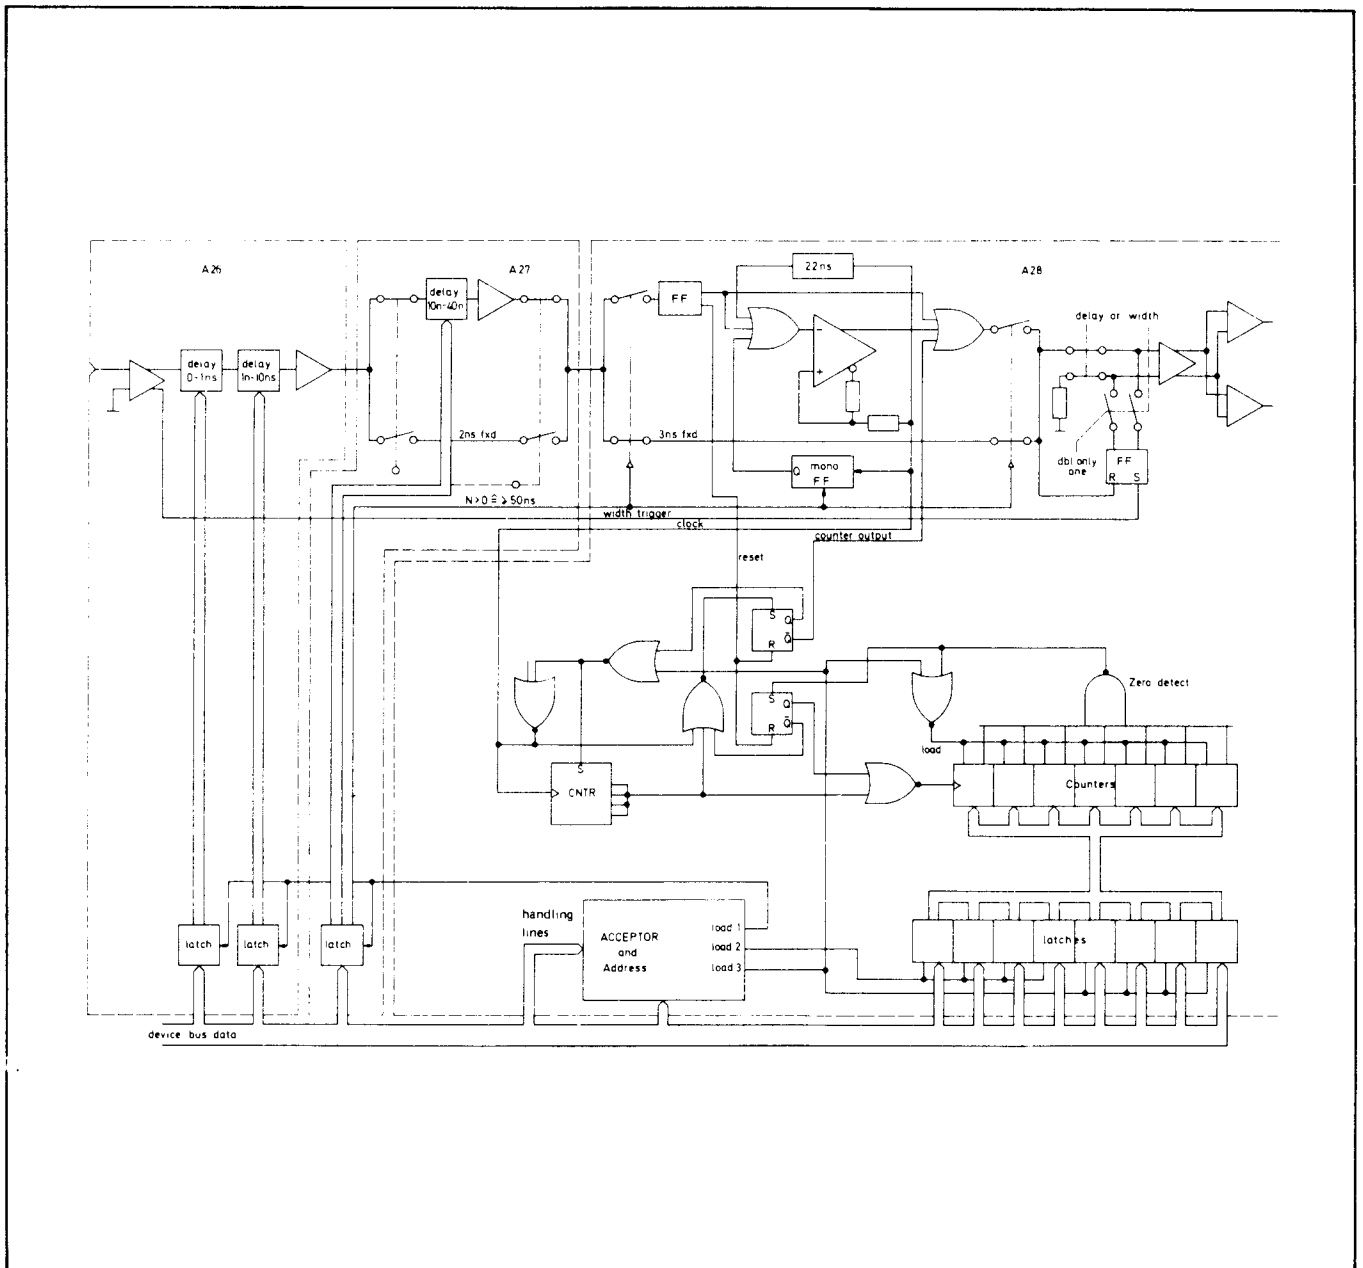

Figure 8-10-1. Simplified block diagram of time interval section.
A simplified diagram of the time interval section (TI) is shown in Figure 8-10-1. This section can provide a delay or width function depending on the position of the DELAY/WIDTH switch on A128.